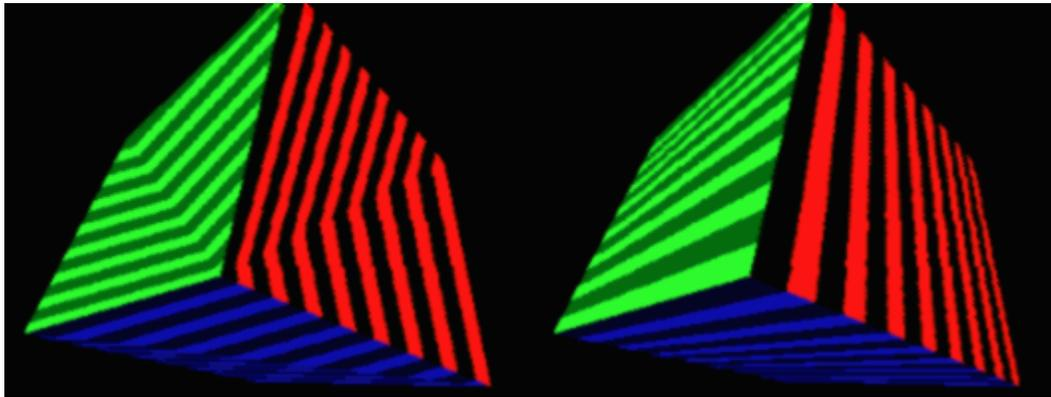

Figure 3: Perspective Correction Example. The striped cube on the left lacks correction, and shows discontinuities in textures at triangle edges.
3. **Setup Texture Perspective Correction** -- For texturing, additional parameters for each scanline, or even smaller spans of scanlines, are required to correct for the foreshortening imposed by a perspective view. Without this correction factor, textures distort and show discontinuities along polygon edges (see Figure 3).